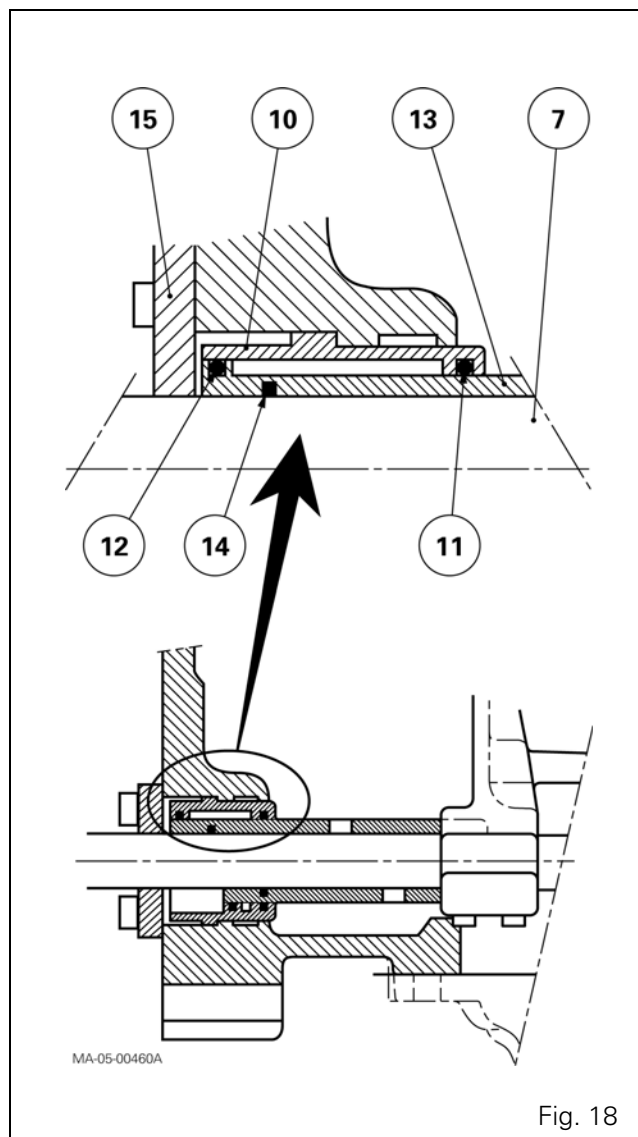

Fig. 18
65. Check that the hydraulic ports in the Hare / Tortoise cylinder (10) are not obstructed. Refit the cylinder fitted with a new "O" ring (11) (Fig. 18).
The cylinder (10) is held in position (Fig. 18):
- at the rear, by the cover plate (15).
67. On the piston (13), fit the "O" rings (12) (14), and then insert the piston into the cylinder bore (10) and onto the selector rail (7) (Fig. 18).